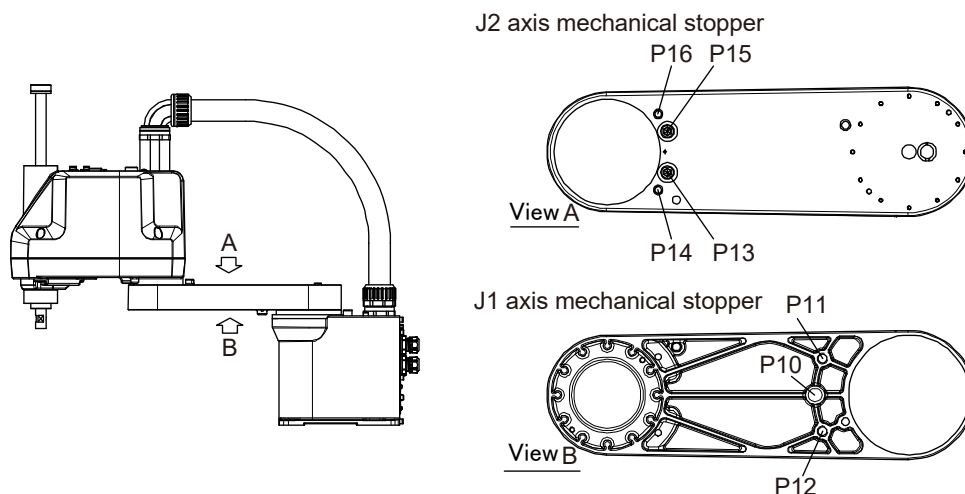

Fig.3-1 : Mechanical stopper position
Note 1) Refer to Fig. 3-1 for the mechanical stopper position.
- 2) Refer to Table 3-1 and Fig. 3-1, and install the stoppers in the screw holes at the angles to be set. Fig. 3-1 shows the mechanical stopper positions. When the screw holes are hidden under the arm, slowly move the No.1 arm by hand.